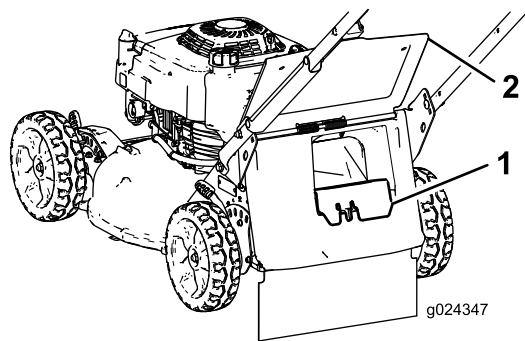

Figure 18
- If the rear-discharge plug is not installed, grip it by the handle, raise the rear door, and insert it into the rear-discharge chute until the latch locks into place (Figure 18).
3. Remove the rear-discharge plug by pushing in the latch with your thumb and pulling the plug out from the machine (Figure 18).